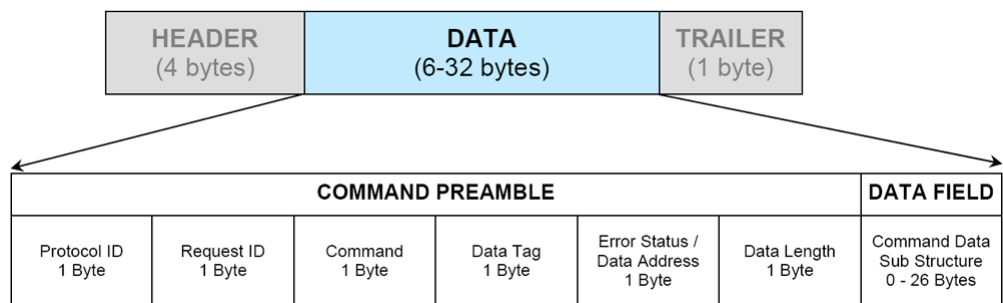

Figure 4: Data Sub-Packet
The data sub-packet is comprised of 6 to 32 bytes of information. It is further divided into seven (7) fields as shown in Figure 4. The first six (6) fields comprise the command preamble while the last field is the actual data.